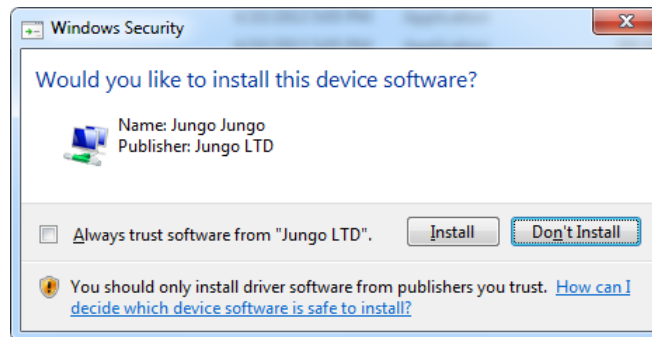

Figure 56 Jungo Driver Installation
3. Click **Install** if the window is displayed as shown in Figure 56.